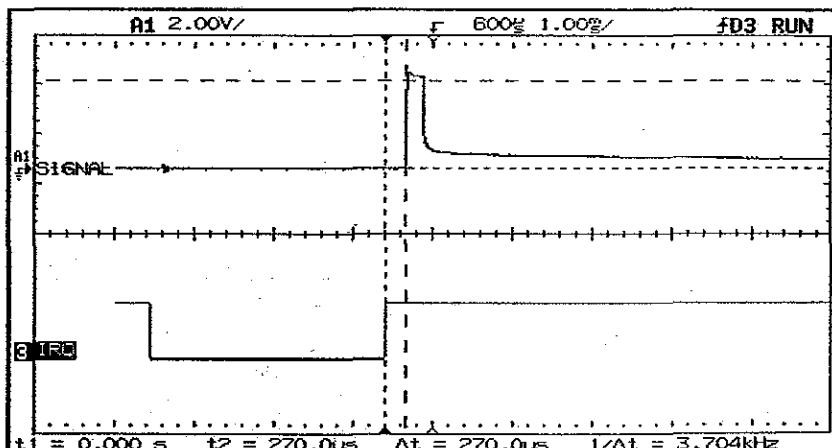

Figure 77
7. Verify that after $\approx 270\mu s$ from the rising edge of TP4, there is a pulse $>3.5V$ (see Figure 77).